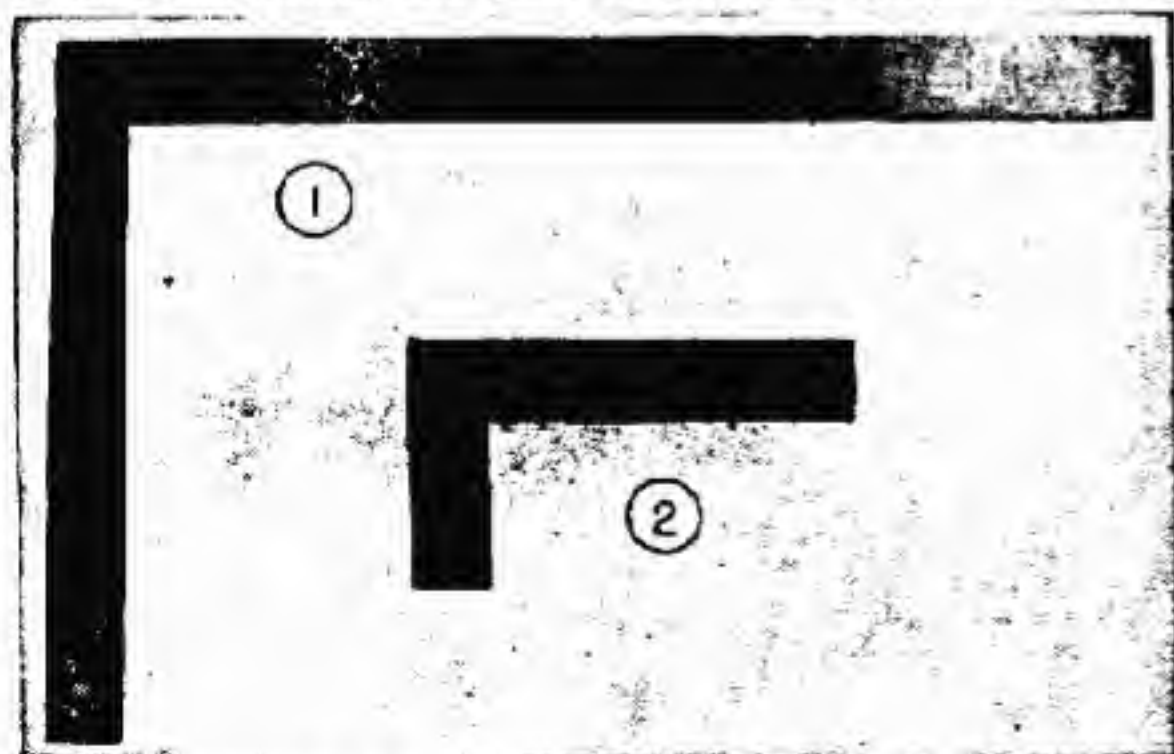

FIGURE 26.—Squares.
① Metallic tape. ② Steel rule.
2. *Squares* (see fig. 26).—The try square is used to test square edges and surfaces. The steel framing square is used to measure angles and to draw the various lines needed by a carpenter.